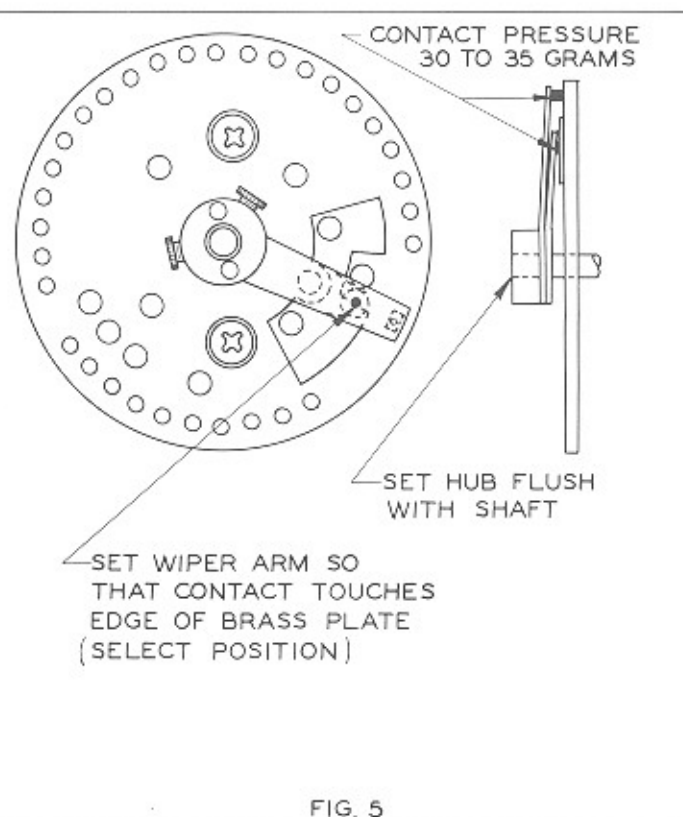

FIG. 5
2. Set wiper arm on the gear motor shaft so that the center of the contact of the short wiper arm rests on the edge of the lower left side of the "U" position of the contact plate. Set hub flush with shaft. (See Fig. 5.)
3. Tighten the set screws in the collar of the contact wiper arm, and adjust the contact wiper arm pressure to approximately 40 grams on both contacts. (See Fig. 5.)